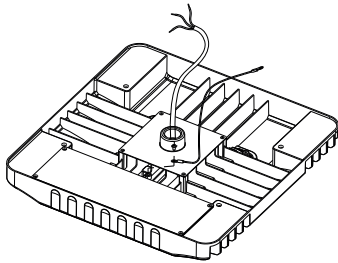

Figure 1
1. Fix one side of the accessory safety rope on the back of the fixture. (Figure 1)